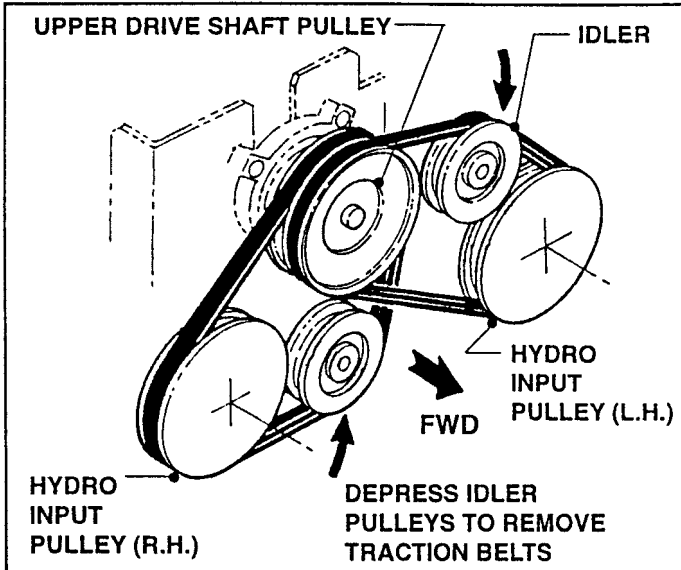

FIGURE 5.10
- D. Depress Idler Pulley and remove Traction Belt from Input Pulley. See Figure 5.10, Pg. 5.6.